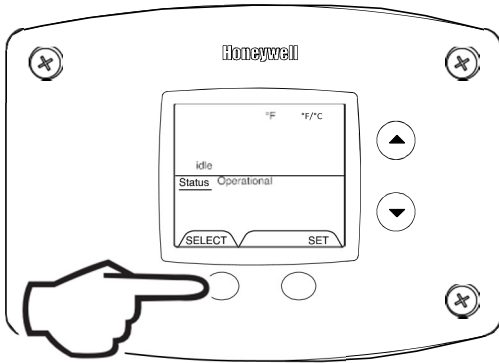

Figure 19
1. Press 'SELECT' button until °F/ °C is displayed (Fig. 19).